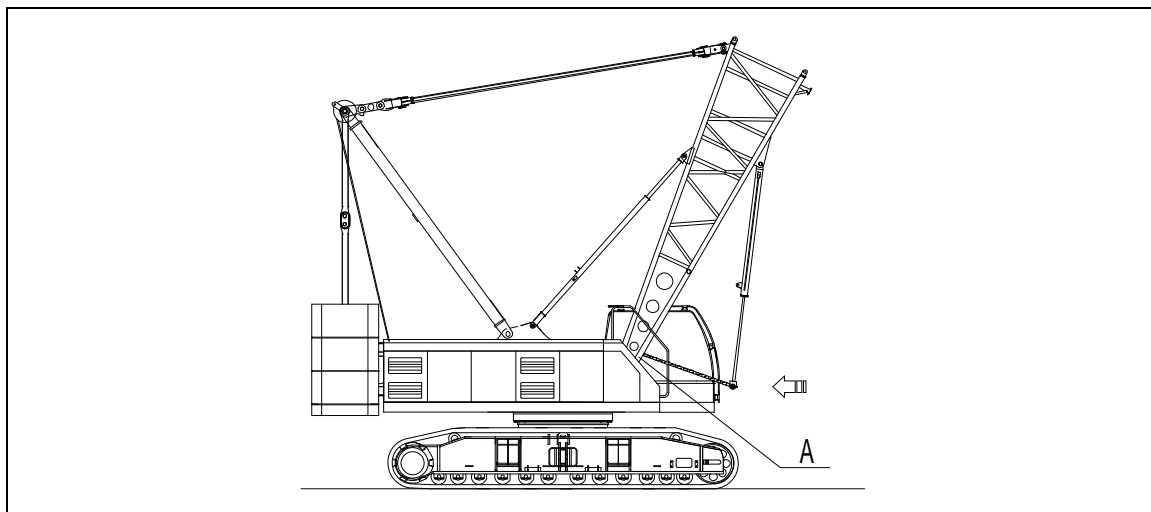

Figure 5-35 Fixation of piston rod of mounting cylinder
- Fix piston rod of mounting cylinder on the position A of pivot section via a flexible strap. See figure 5-35.